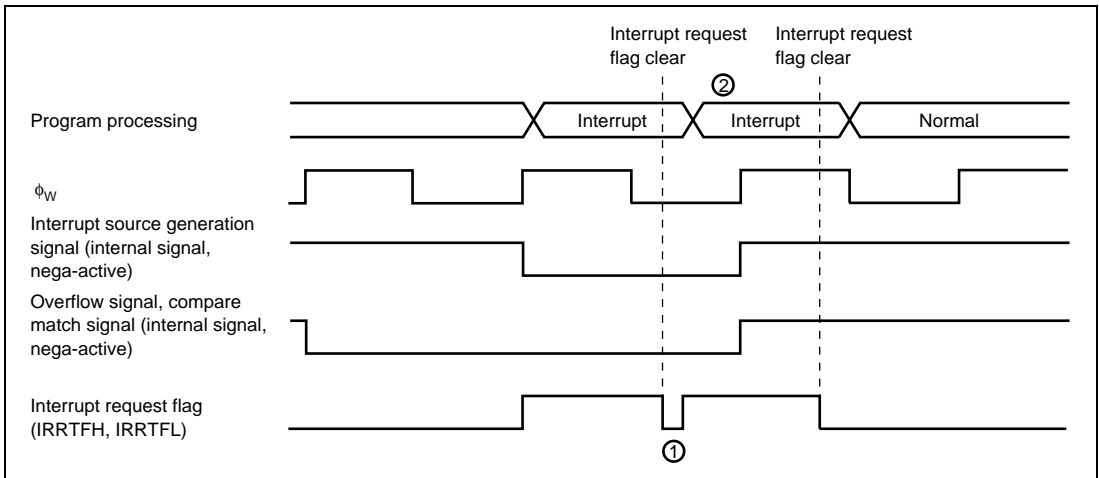

Figure 11.3 Clear Interrupt Request Flag when Interrupt Source Generation Signal is Valid
When $\phi_w/4$ is selected as the internal clock, "Interrupt source generation signal" will be operated with ϕ_w and the signal will be outputted with ϕ_w width. And, "Overflow signal" and "Compare match signal" are controlled with 2 cycles of ϕ_w signals. Those signals are output with 2-cycle width of ϕ_w (figure 11.3)
In active (high-speed, medium-speed) mode, even if you cleared interrupt request flag during the term of validity of "Interrupt source generation signal", same interrupt request flag is set. (1 in figure 11.3) And, the timer overflow flag and compare match flag cannot be cleared during the term of validity of "Overflow signal" and "Compare match signal".
For interrupt request flag is set right after interrupt request is cleared, interrupt process to one time timer FH, timer FL interrupt might be repeated. (2 in figure 11.3) Therefore, to definitely clear interrupt request flag in active (high-speed, medium-speed) mode, clear should be processed after the time that calculated with below (1) formula. And, to definitely clear timer overflow flag and compare match flag, clear should be processed after read timer control status register F (TCSR F) after the time that calculated with below (1) formula.